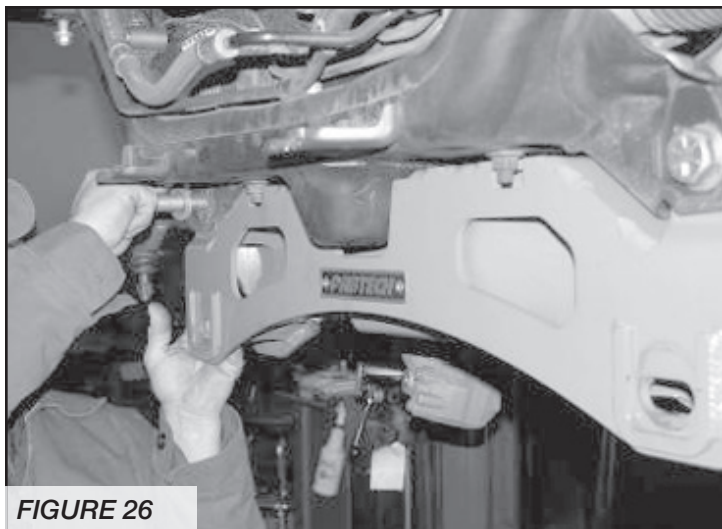

FIGURE 26
19. Locate the Fabtech front crossmember FT70051 06-09 models FT70162 10-12 models, with the supplied  $\frac{3}{4}$ " x 4 1/2" bolts, nuts, and washers, attach the crossmember to the factory control arm pockets, leave loose at this time. **SEE FIGURE 26**